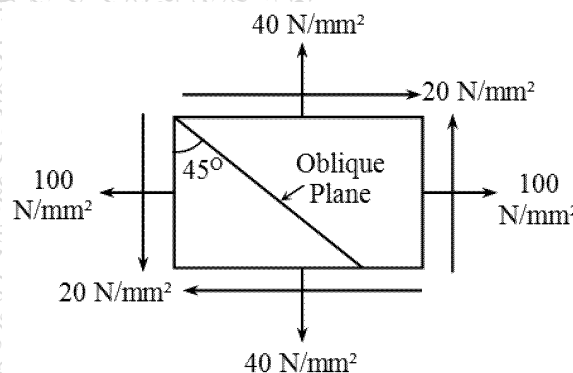

Figure.2
- Que.2 a) A point in a strained material is subjected to stresses shown in fig. 2. Determine normal, tangential and resultant stresses across oblique plane by Mohr's circle method. Also calculate angle of obliquity.